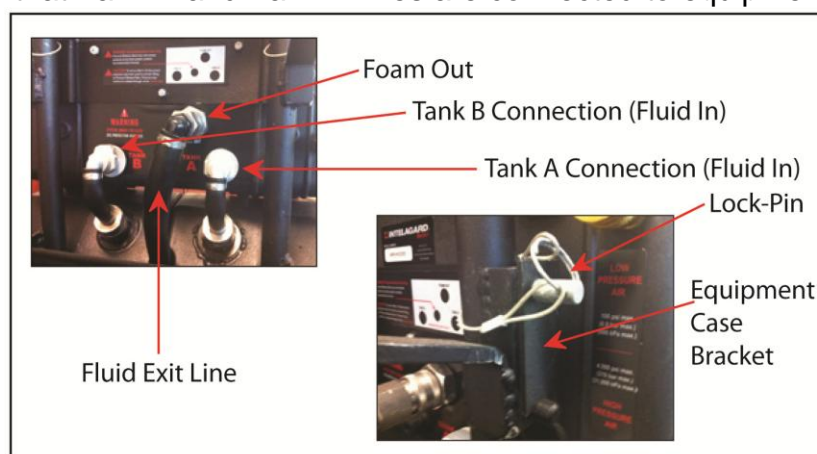

Figure 4.3.3.1 Equipment Case Connections
4.3.3 Connecting the Equipment Case to the Handcart. If the equipment case is not connected to the Merlin, follow the instructions below. There are 6 connecting points where the Merlin's equipment case interfaces with the handcart. See Figure 4.3.3.1.